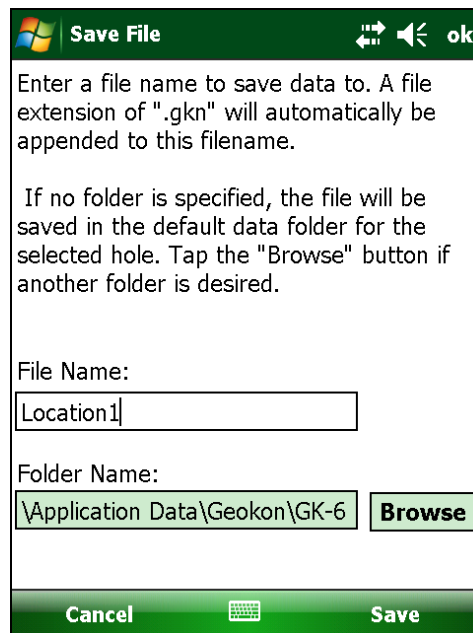

Figure 8 - Save File Dialog
Figure 8 - Save File Dialog	8
8. Tap the “Yes” button to start the data saving process. The “Save File” dialog (Figure 8) will be displayed, allowing the user to name the data file to save.
11. Tapping “No” at the “File exists” dialog will again call up the “Save File” dialog (see Figure 8) and another opportunity will be given to select a new file.